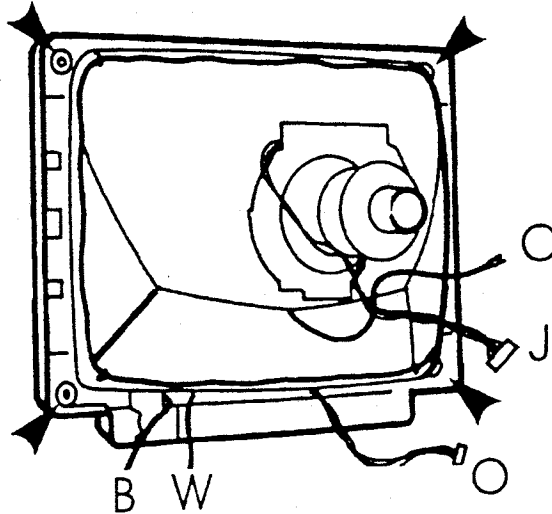

Figure 6
3. Disconnect the degauss coil, B, see figure 6.
4. Disconnect the mains switch lead, W, see figure 6.
5. Disconnect the CRT dag earth lead C, see figure 6.
9. Remove the scan coil plug J from the main PCB, see figure 6.
To remove the CRT from the facia loosen the four tube retaining screws, indicated by arrows in figure 6, using nut runners. The tube can now be lifted from the facia.